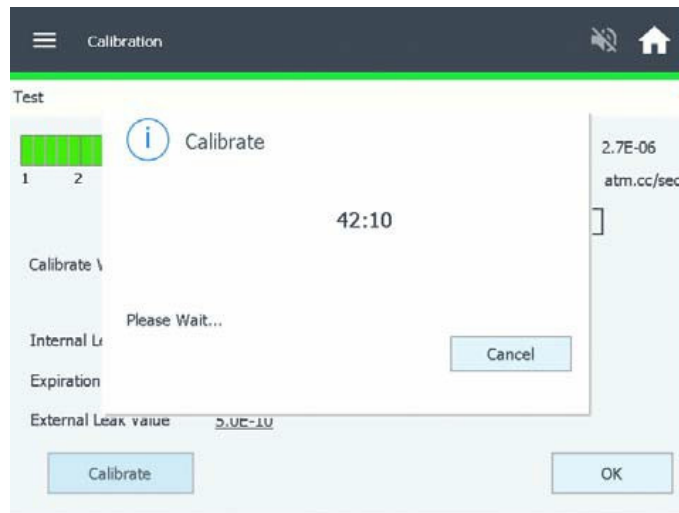

Figure 32 Helium Background Timer
- Background is changing, indicating the system is still pumping away background helium, a countdown timer appears (Figure 32). The system monitors the helium background and shows the time until the calibration begins. Should you prefer not to wait, a Cancel button permits the calibration request to be canceled.